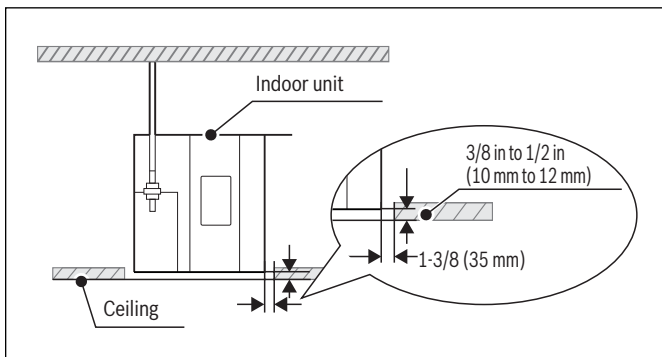

Figure 11
- f. Finally, level the unit by adjusting the hex nuts on the four mounting hooks. The bottom of the unit should also be 3/8in to 1/2in (10-12mm) recessed from the bottom of the ceiling (see Figure 11).